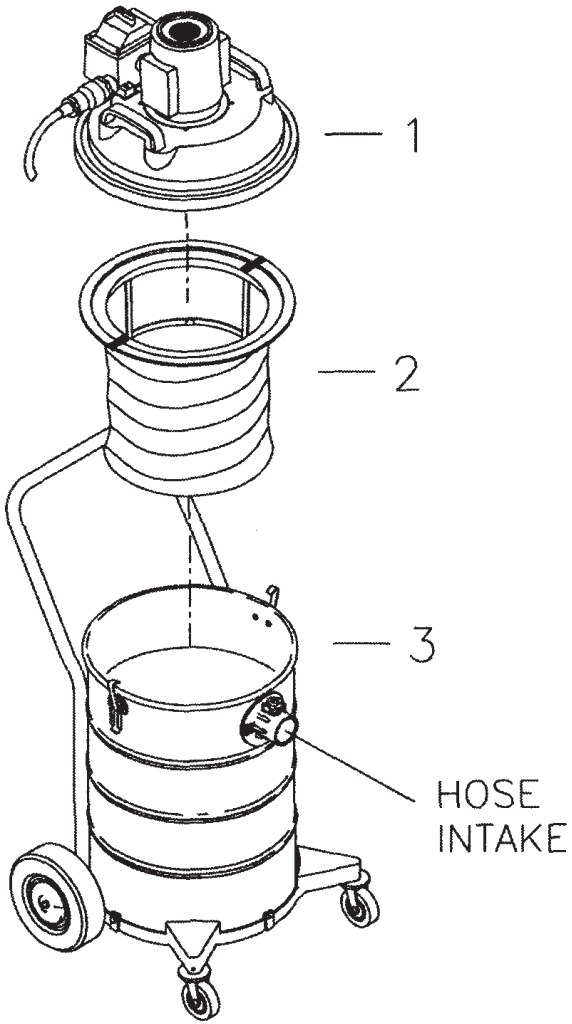

FIG. 1
7. Do not operate without proper static dissipating dust bag or filters in place, nor assemble any other way than as shown in figures 1 through 4.
Follow assembly sequence as shown on page 4, figure 1: